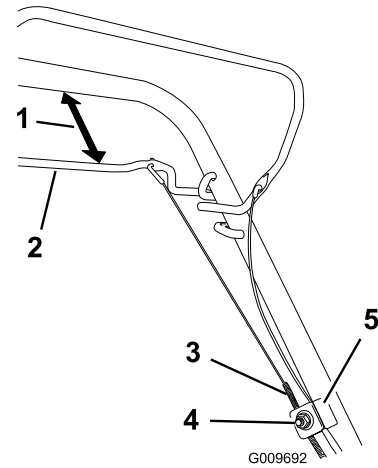

Figure 24
- Loosen the cable-support nut (Figure 24).
- Hold the self-propel-drive bar 25 to 38 mm (1 to 1-1/2 inches) from the handle (Figure 24).
- Pull down the cable jacket (toward the machine) until there is no slack in the cable (Figure 24).